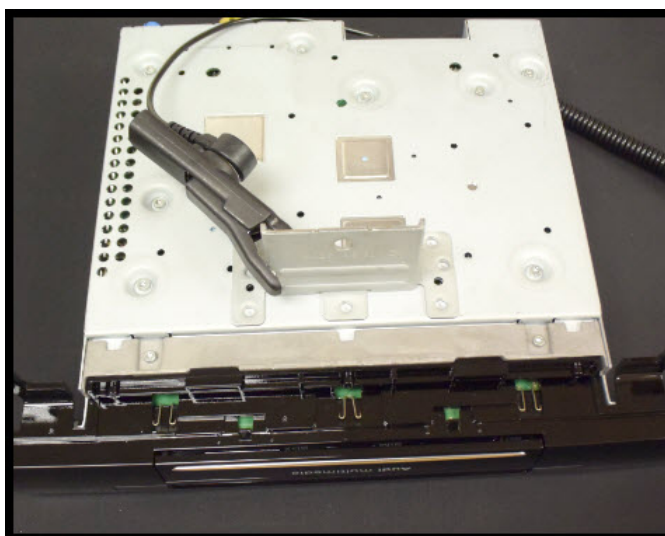

Figure 4. VAS6613 ESD work surface grounding device clip.
6. Ground the MMI main unit by placing an alligator clip on the back, ensuring that it makes contact with the metal housing of the main unit. The most secure location is at the bottom of the metal bracket (Figure 4).